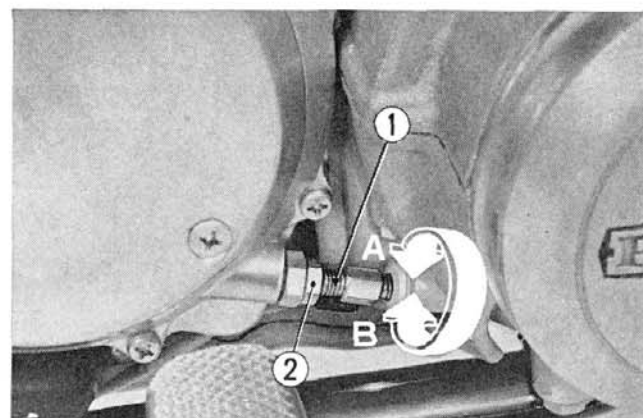

Fig. 19-12 ① Clutch cable adjusting bolt
- b. Turn the clutch cable adjusting bolt located at the clutch housing, in the direction ① to loosen the clutch cable. (Fig. 19-12)
- d. Turn the clutch cable adjusting bolt located at the clutch housing lower right side of the engine in the ② direction so that there is approximately $3/4$ of free play at the clutch lever; then tighten the lock nut. (Fig. 19-12)
- (3) The nominal clutch lever free play is 0.4–1.0 in (10–25 mm) measured at lever end before the clutch starts to disengage.